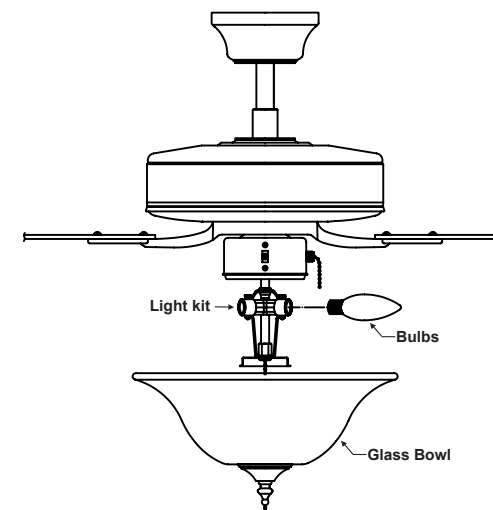

Figure 21
1. Install 60W candelabra bulbs (included). (Fig. 21)